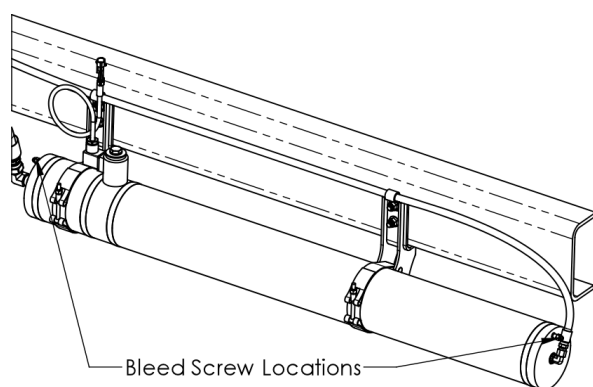

Figure 35. Bleed screw locations DS135RS3-DM.
7. Secure the hose using the included hose clamps and fasteners. Refer to Figure 35.